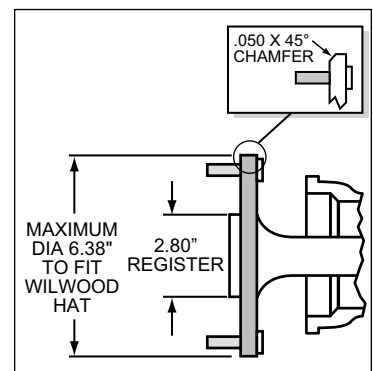

Figure 2. Axle Flange Maximum Dimension
- Axle center register diameter is 2.80", Figure 2. This kit uses Wilwood's removable center register adapters. Rotors can either be centered on the axle register, i.e. *register-centric* or centered on the wheel studs, i.e. *stud-centric*. Due to variations in wheel stud final diameters, *register-centric* centering can be a more accurate method of centering the rotor to the axle. Wilwood offers various diameter adapters for purchase in addition to the ones supplied in this kit, see Table 1.
- Maximum axle flange diameter must be no larger than 6.38" w/.050" x 45° chamfer, Figure 2.